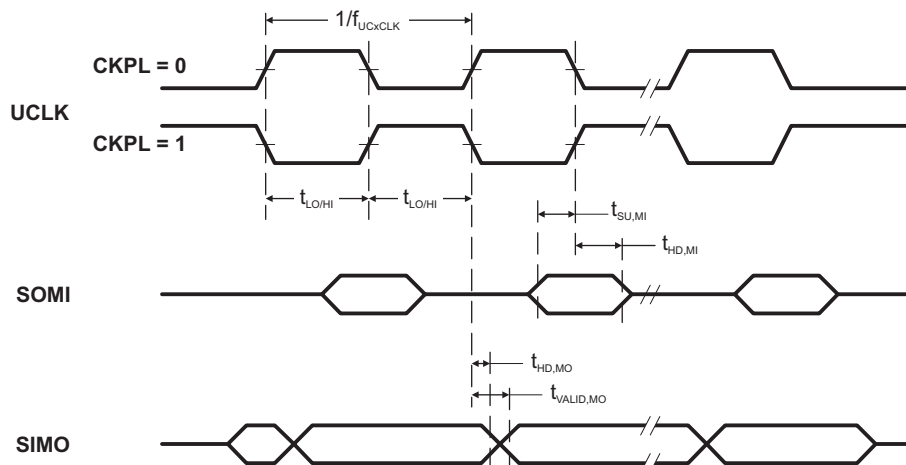
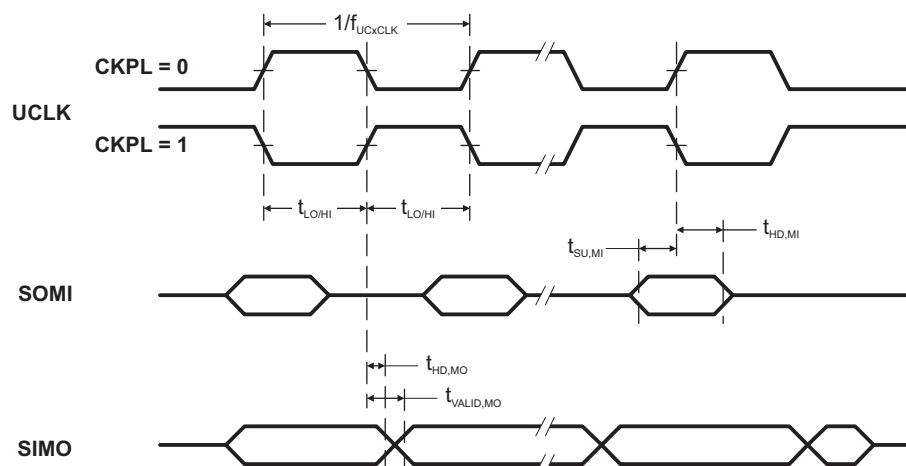

Figure 7. SPI Master Mode, CKPH = 0
Figure 8. SPI Master Mode, CKPH = 1
(see Note ⁽¹⁾, Figure 7 and Figure 8)
diagrams in Figure 7 and Figure 8.
(3) Specifies how long data on the SIMO output is valid after the output changing UCLK clock edge. Negative values indicate that the data on the SIMO output can become invalid before the output changing clock edge observed on UCLK. Refer to the timing diagrams in Figure 7 and Figure 8.
- (2) Specifies the time to drive the next valid data to the SOMI output after the output changing UCLK clock edge. Refer to the timing diagrams in Figure 7 and Figure 8.
- (3) Specifies how long data on the SOMI output is valid after the output changing UCLK clock edge. Refer to the timing diagrams in Figure 7 and Figure 8.